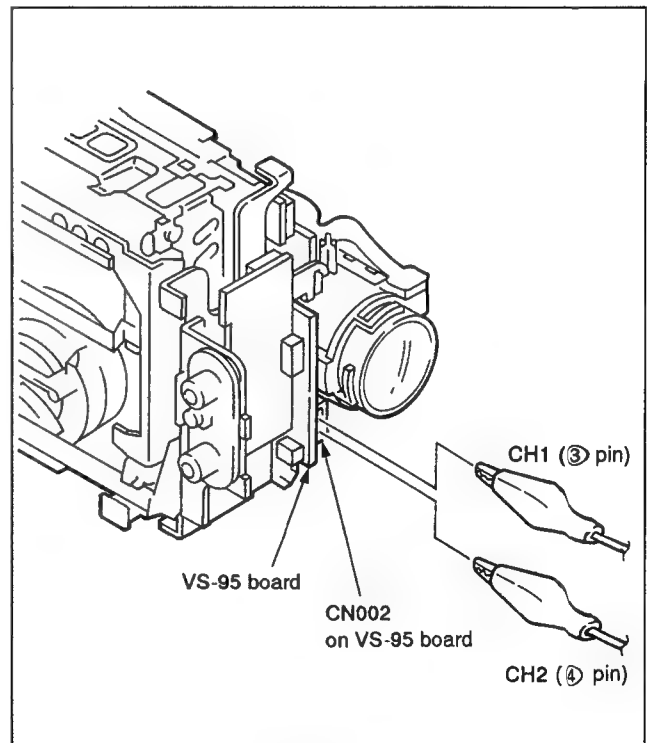

Fig.8-1.
- 4) Check that the RF waveform of the oscilloscope is flat at both inlet and outlet side. (Refer to Fig. 8-1 and 8-2)